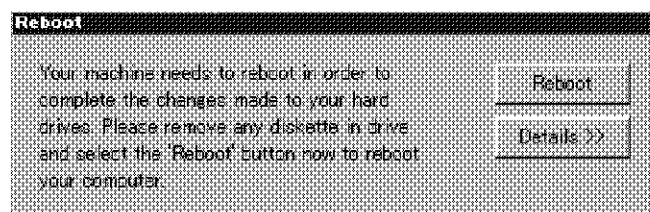

Figure 8-1 Reboot Dialog Box
6. The Reboot dialog box shown in Figure 8-1 is displayed on completion of system recovery.